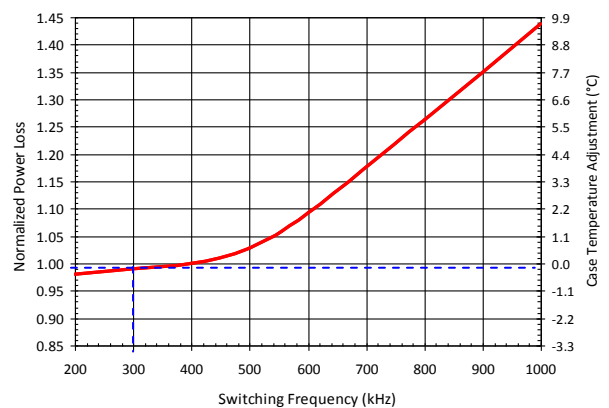

Figure 13: Normalized Power Loss vs. Switching Frequency
- 4) Determine the switching frequency normalizing factor with $f_{SW} = 300kHz$, which is 0.99 based on the dashed lines in Figure 13.